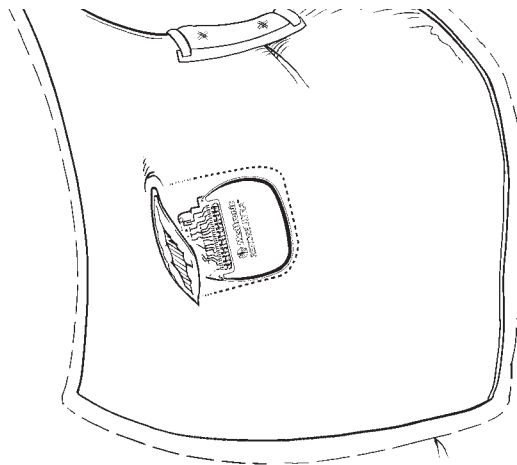

FIGURE 39
- 4 Making sure not to allow fluid into the connector block, verify the pocket size (FIGURE 39).